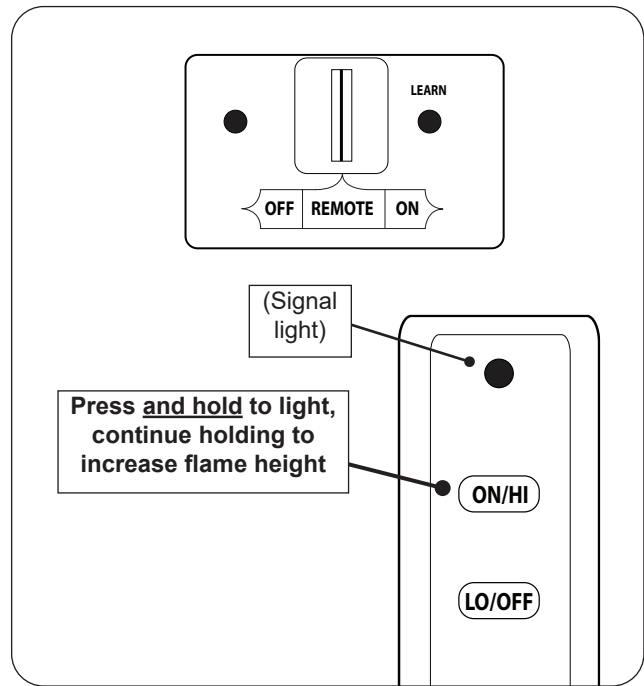

Fig. 34-1 Remote lighting
1. Ensure the pilot is burning. Locate the 3-position switch on the remote receiver, and slide the switch to **REMOTE** (see Fig. 34-1).
2. Locate the remote transmitter and press and hold the **ON/HI** button (see Fig. 34-1). The ignition sequence will begin.